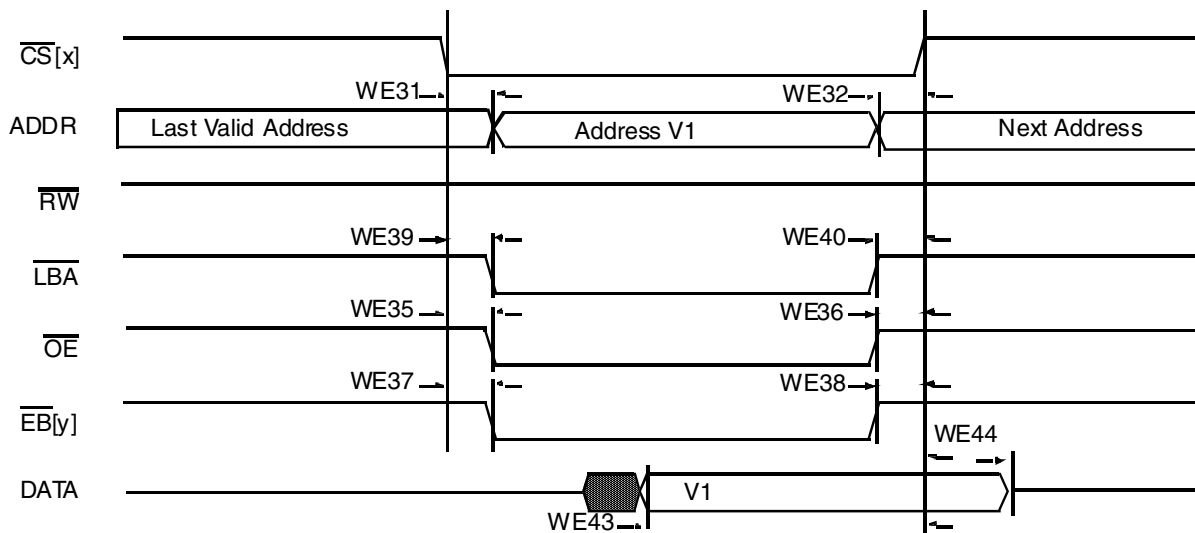
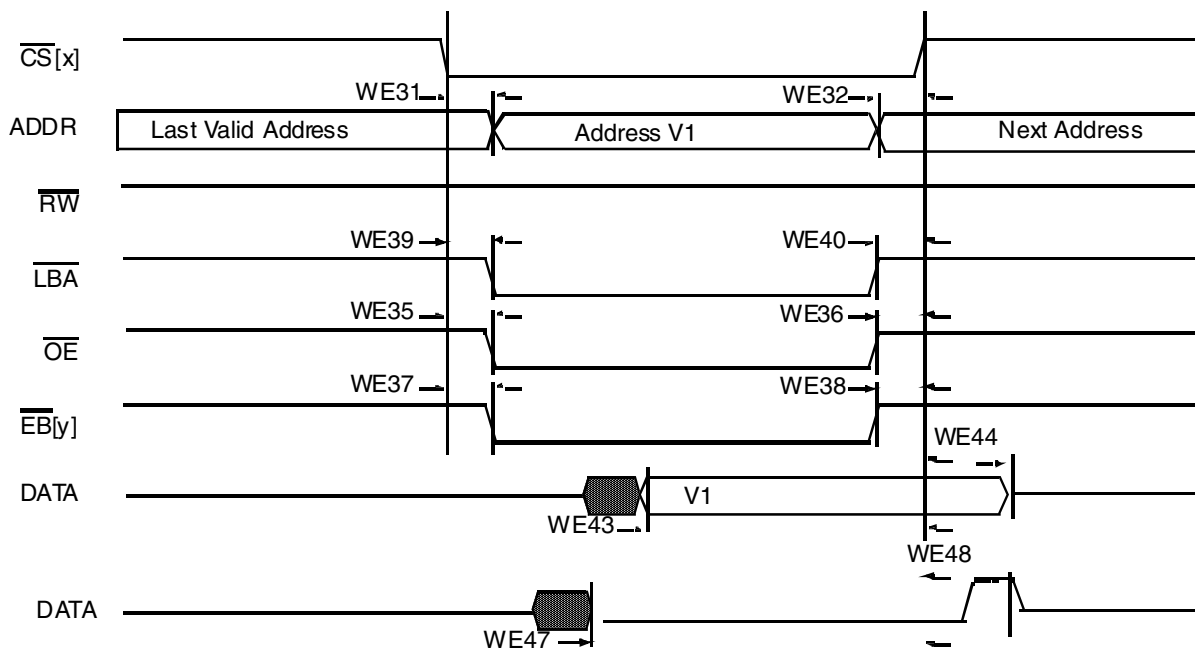

Figure 45. Asynchronous Memory Read Access
Figure 49. DTACK Read Access
Figure 45 through Figure 49, and Table 57 help to determine timing parameters relative to chip select (CS) state for asynchronous and DTACK WEIM accesses with corresponding WEIM bit fields and the timing parameters mentioned above.